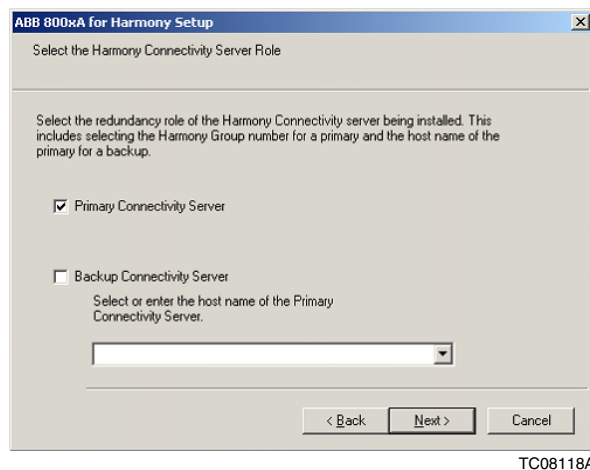

Figure 34. Connectivity Server Role
1. The Select the Harmony Server Role dialog box will appear (Figure 34).